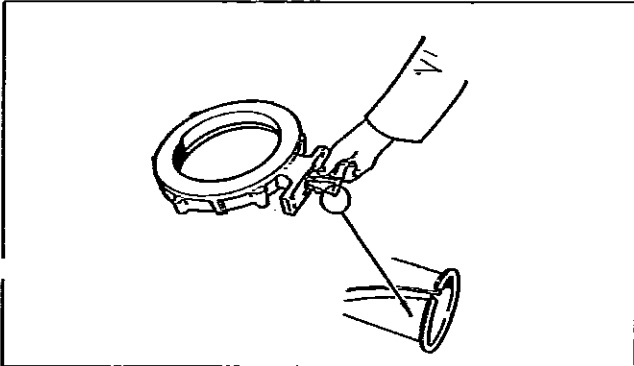

Fig. 15. Mounting the standard bearings
- Mount the bearings into the body (see Fig. 15).